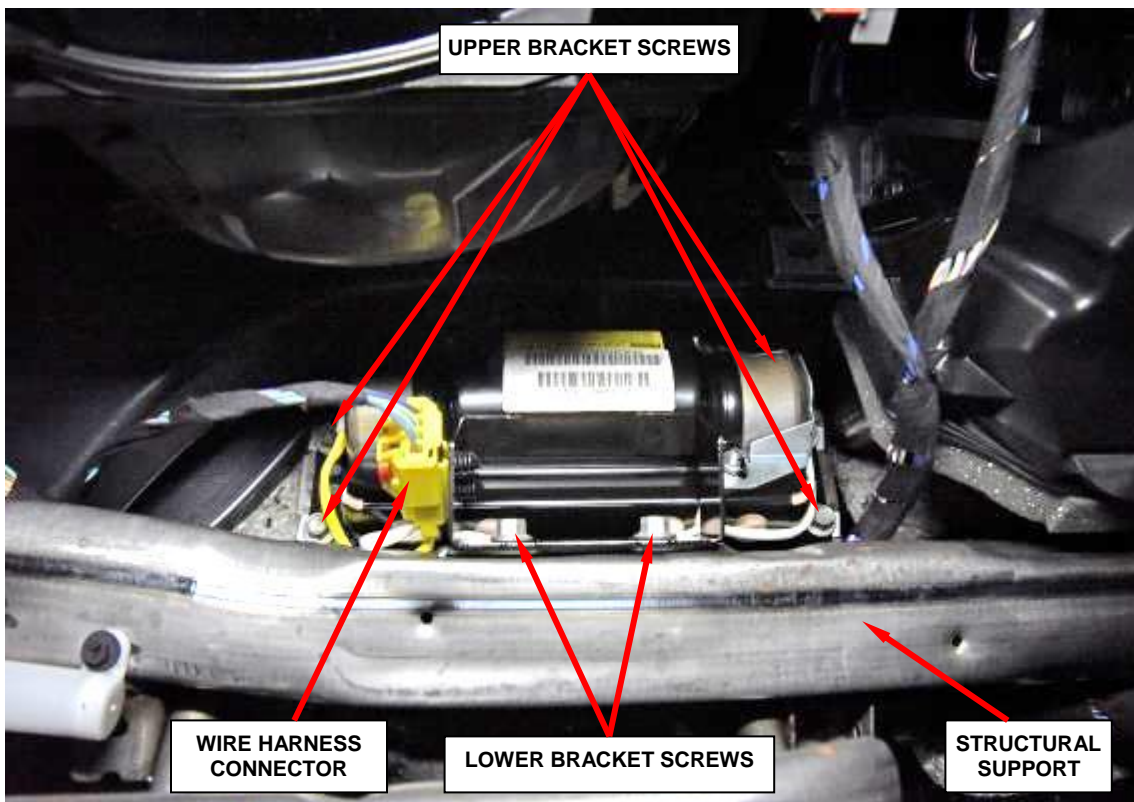

Figure 50 – PAB Housing, Inflator and Cushion to be Removed a Unit (View through Glove Box Opening)
29. Disconnect the instrument panel wire harness connector from the PAB pigtail wire connector (Figure 50).
30. Remove the two screws that secure the PAB lower bracket to the instrument panel structural support (Figure 50).
31. Remove the four screws that secure the PAB upper brackets to the sides of the PAB retainer or chute on the underside of the instrument panel cover (Figure 50).